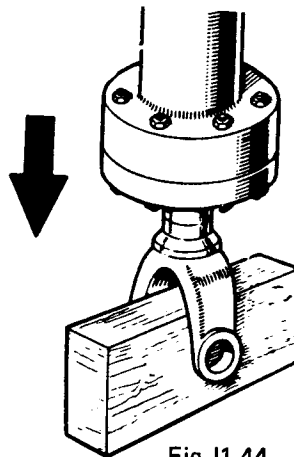

Fig J1.44
- (3) Refer to Fig J1.44. Stand the shaft on end on a block of hard wood. Bolt adaptor No. 4 to the tool with the recess towards the collar (see (3) on Fig J1.44).
- (4) Drive the collar onto the shaft, using the extractor tube as a ram.